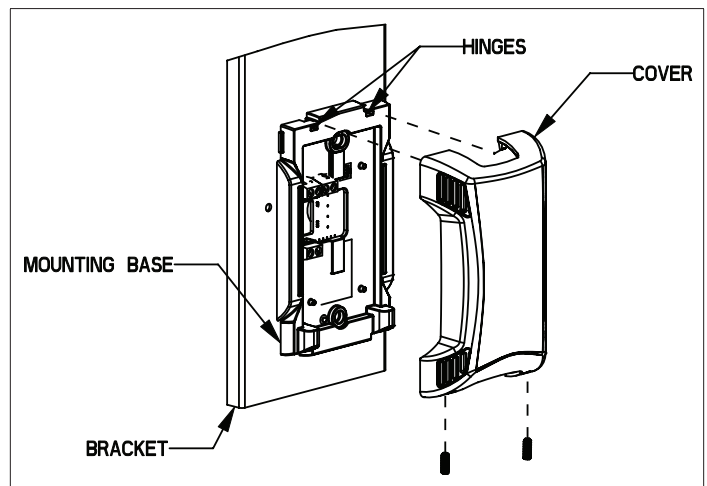

Figure 2. Install CO₂ Sensor Hinges
5. Align notches on baseplate with hinges on the back of the cover and pivot closed. Install two screws on the bottom of the sensor cover to secure sensor cover to baseplate as illustrated in figure 2.